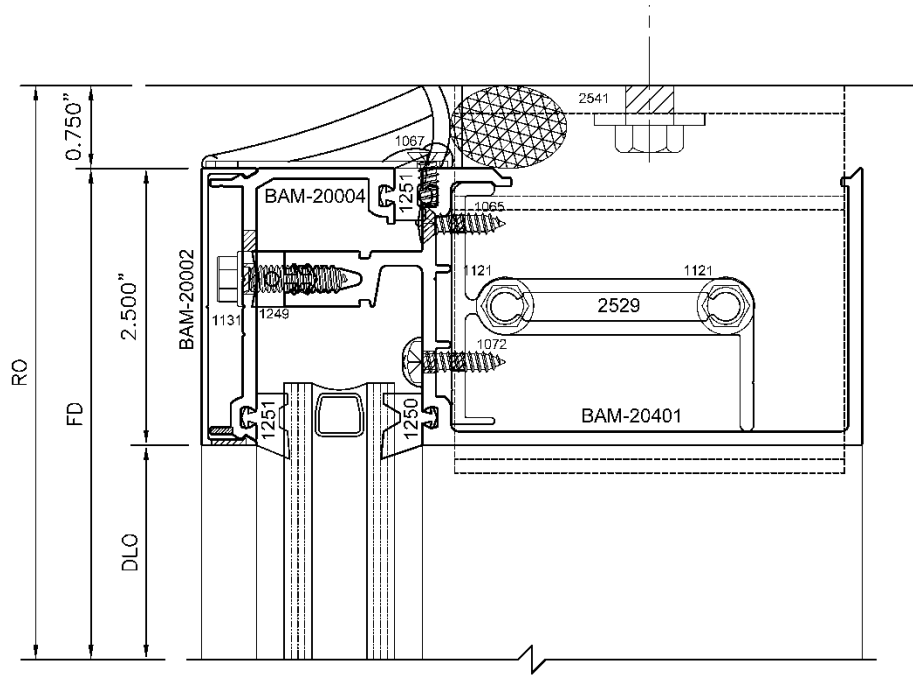

FIGURE W.1
5. Check you perimeter seals and taper the head sealant as previously defined.(FIGURE W.1)
10. Check perimeter seal and taper head as previously defined. (FIGURE W.1)